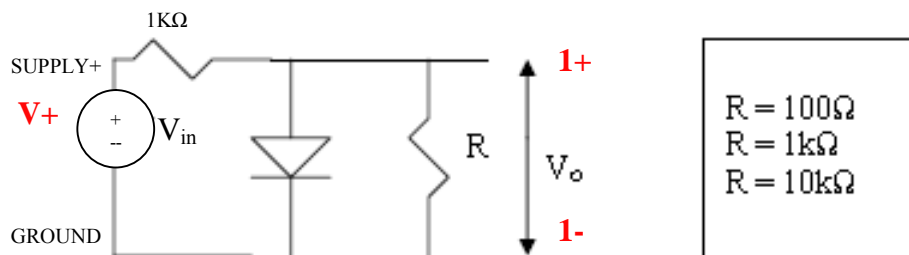

Figure 1.5: Simple Diode Circuit
You should have simulated the diode-resistor circuit shown in Figure 1.5 with the values of R given below.
- Build the circuit shown in Figure 1.5 on the NI-ELVIS breadboard with $R = 100\Omega$. Use the 1N4001 or the 1N4004 diode.
- Repeat steps a to c for the other values of R given in Figure 1.5 and complete Table 1.2, below.
Table 1.2: Measured V_o for circuit in Figure 1.5